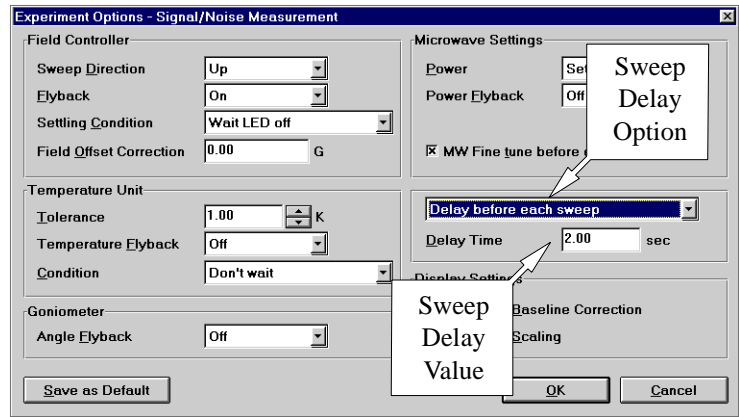

Figure 9-11 Set Experimental Options.
3. **Set a time delay.** Since a very long time constant is used, set a delay time of 2-5 seconds to avoid overshoots or undershoots in the first few data points when you acquire the spectrum. Open the Experimental Options dialog box (found in the Parameter drop-down menu) and set the Delay before each sweep option and a delay of two to five seconds. (See Figure 9-11.)